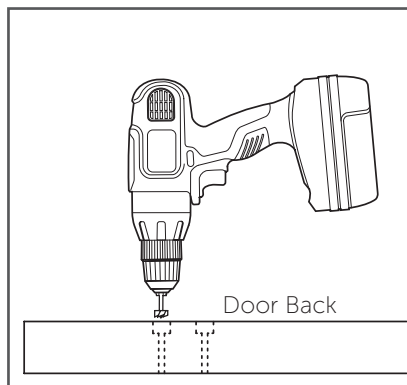

Figure 4
5. Turn the door over. Using a 1-1/8" Forstner bit*, drill a 7/16" deep hole into each pilot hole (Figure 4).